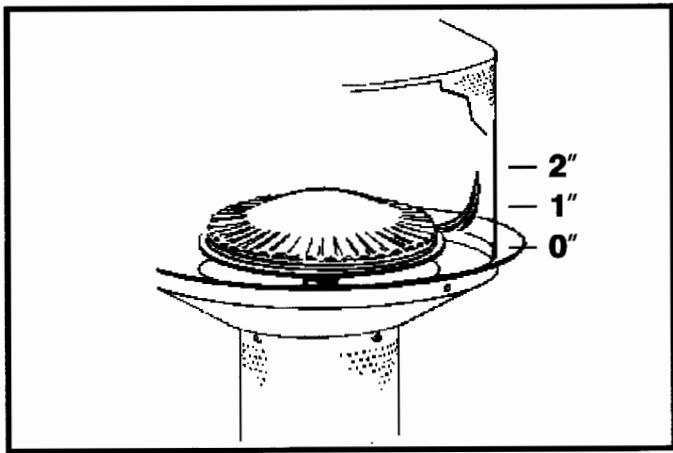

Figure 1. Normal Flame Position
- d. The flame pattern at the emitter grid should be visually checked whenever heater is operated (see figure 1.). If flames extend more than 1/2 inch beyond surface of the emitter grid or black soot is accumulating on the emitter grid or reflector, the heater should be turned off immediately. The heater should not be operated again until repairs are made.